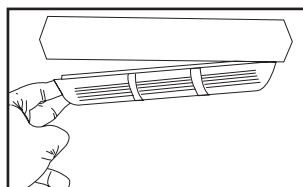

fig. 3
## Replacing the Light Bulb (fig. 3)
2. Remove the plastic light shade located inside the freezer by lightly pressing to the left side. (see fig. 3)